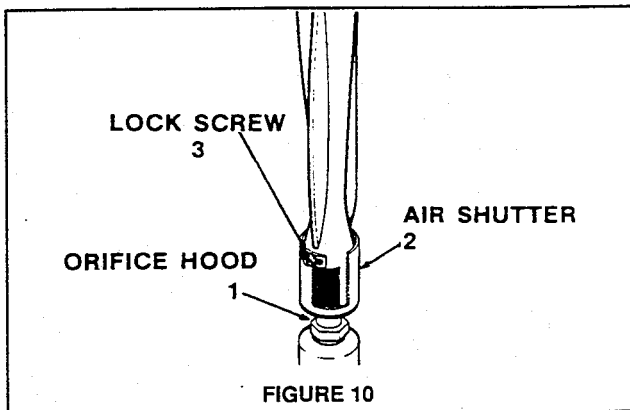

FIGURE 10
1. Yellow flame on burner - open air shutter "2" on figure 10.
2. Distinct blue flame but lifting - close air shutter "2" on figure 10.